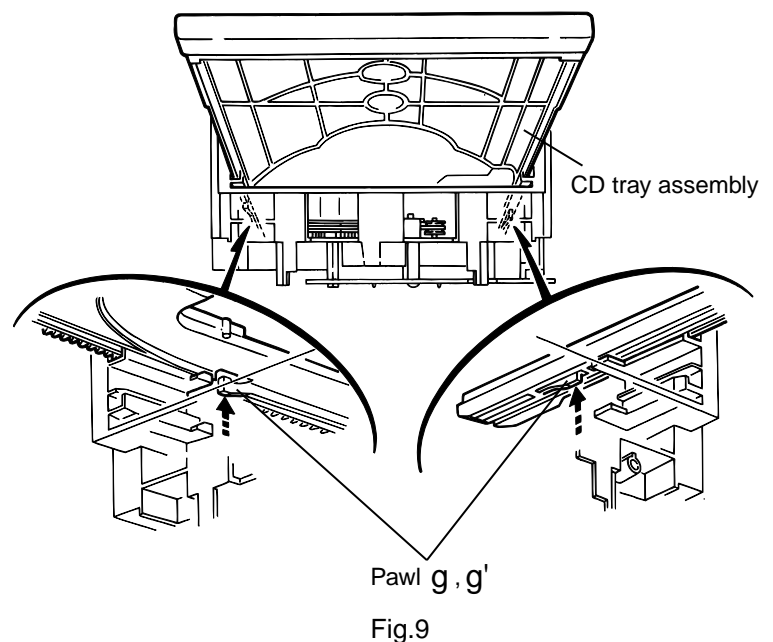

Fig.9
15. At the position where the CD tray assembly has stoppend, pull out the CD tray assembly while pressing the two pawls "g and g' "on the back side of CD tray assembly(See Fig.9). In this case, it is easy to pull out the assembly when it is pulled out first from the stage CD tray assembly.